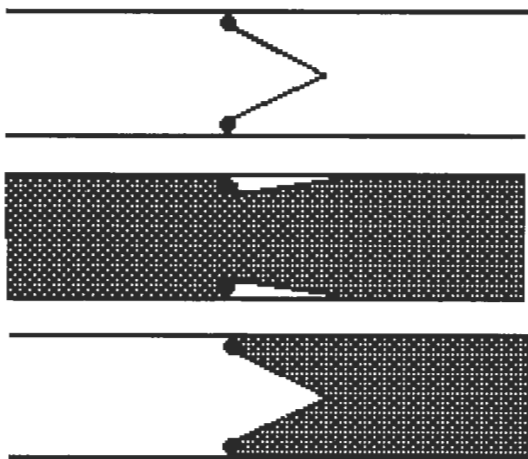

Figure L3-04
- The diode is a one-way street. You can view the animated version of Figure L3-04 at the Web site www.books.mcgraw-hill.com/authors/cutcher.